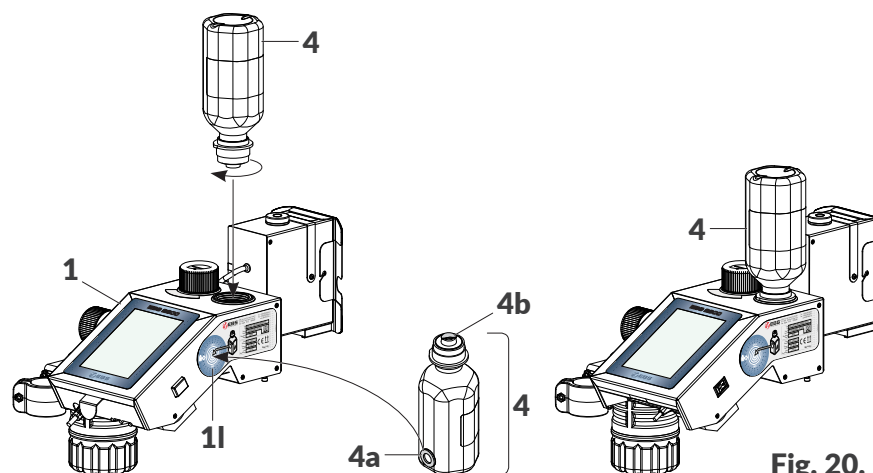

Fig. 20.
21. Put transponder **4a** of starter ink bottle **4** (see Fig. 20) to reader **1l** on the side wall of the printer's control unit **1**.